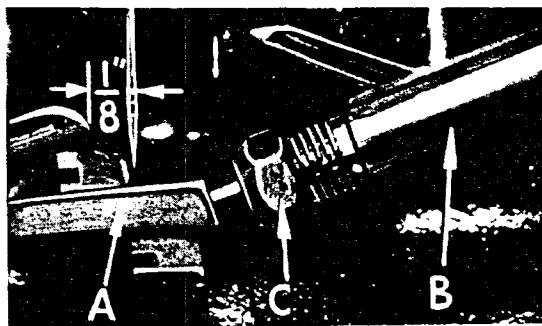

Fig. 5
At this point, insert lower looper (A, Fig. 5) into bar (B). With lower looper at left end of its stroke, set looper point  $1/8$  inch from center of needle (Fig. 5), using looper gauge No. 21225- $1/8$ . Do not have lower looper deflecting needle. Tighten nut (C).